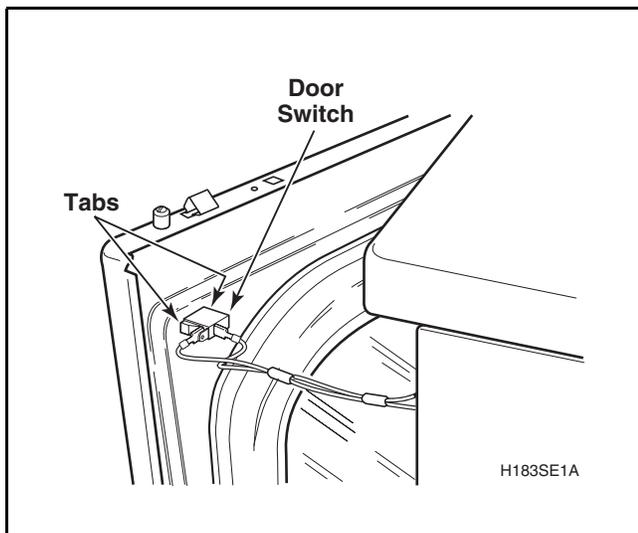

Figure 15
- e. Disconnect wires from door switch. Refer to *Figure 15*.
- d. Disconnect wires from door switch. Refer to *Figure 15*.
- e. Depress tabs on switch and push out of front panel. Refer to *Figure 15*.